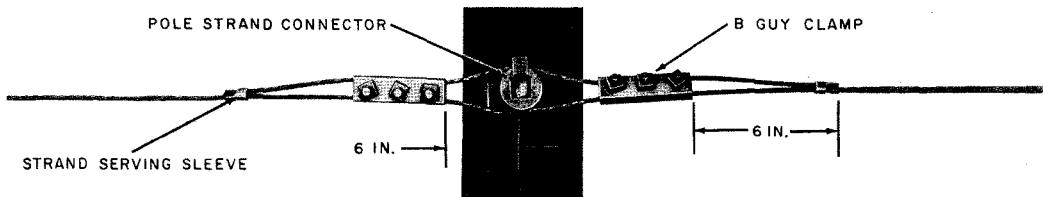

Fig. 7—6M, 6.6M, or 10M Strand Connection at Pole
3.06 Figure 7, 8, and 9 show the required number and spacing of guy clamps for each strand size.